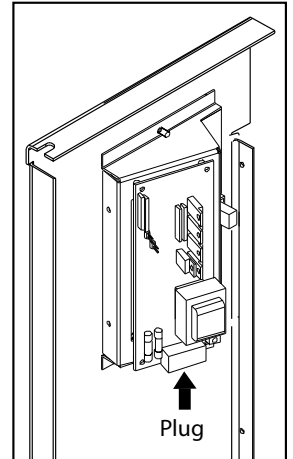

Figure 33: Control Panel Back.
After the surround has been assembled and is ready to be installed on the unit, plug the wiring harness into the control panel (see Figure 33).
- Plug the wiring harness into the control panel (see Figure 33).